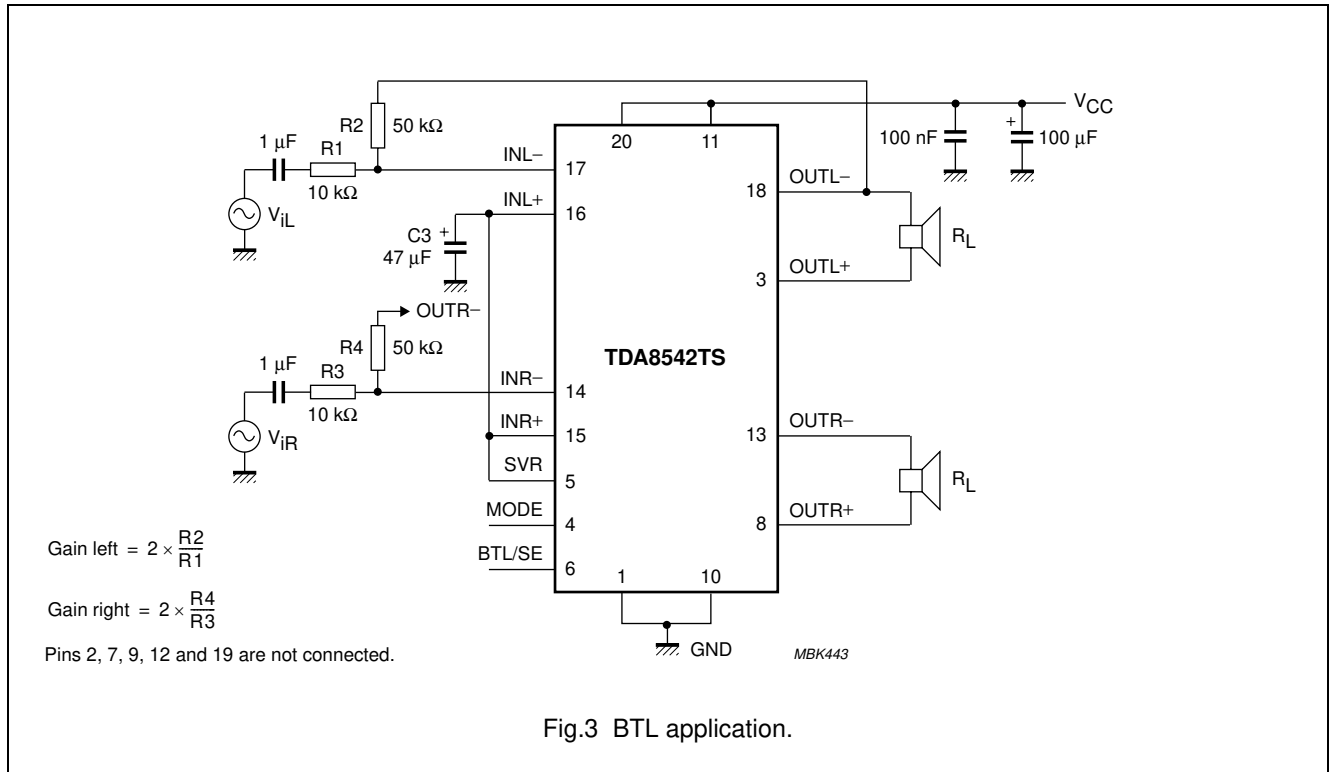

Fig.3 BTL application.
$V_{CC} = 5\text{ V}$; $T_{amb} = 25\text{ °C}$; $R_L = 8\ \Omega$; $V_{MODE} = 0\text{ V}$; measured in test circuit Fig.3; unless otherwise specified.
$V_{CC} = 5\text{ V}$; $T_{amb} = 25\text{ °C}$; $R_L = 8\ \Omega$; $f = 1\text{ kHz}$; $V_{MODE} = 0\text{ V}$; measured in test circuit Fig.3; unless otherwise specified.
- Gain of the amplifier is $2 \times \frac{R_2}{R_1}$ in test circuit of Fig.3.
The BTL application diagram is illustrated in Fig.3.